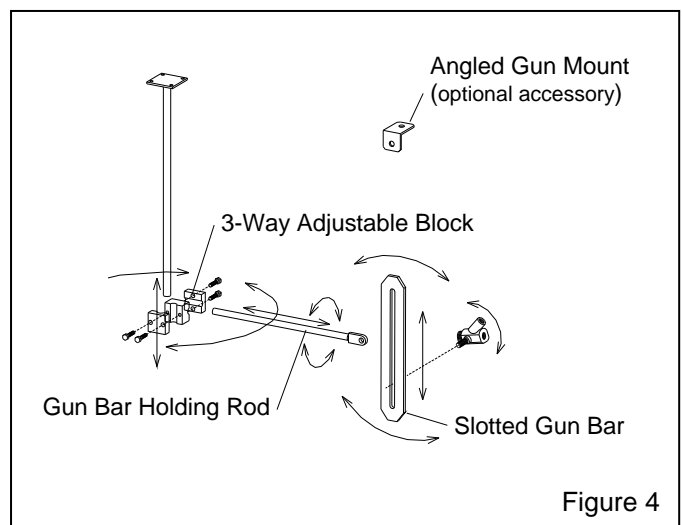

Figure 4
7.1.1 Use the slotted gun brackets and slide mounts to align the guns to obtain full coverage of the part, and with as little overblast as possible. The illustration in Figure 4 shows the axis in which the mounts and brackets may be moved.